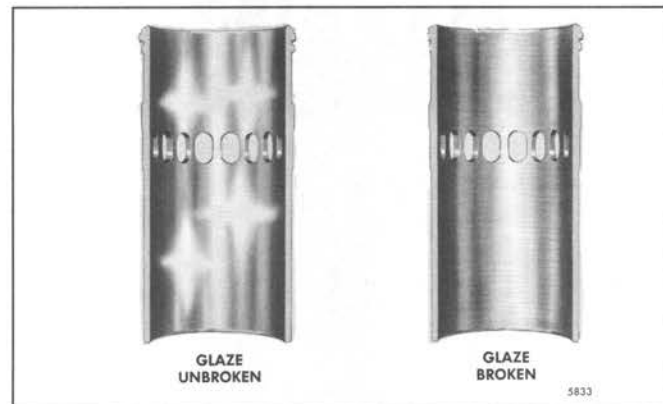

Fig. 3 - Glazed Surface of Cylinder Liner
1. To break the glaze which results due to the rubbing action of the piston rings after long periods operation (Fig. 3). Unless this glaze is removed, the time required to seat new piston rings will be lengthened.